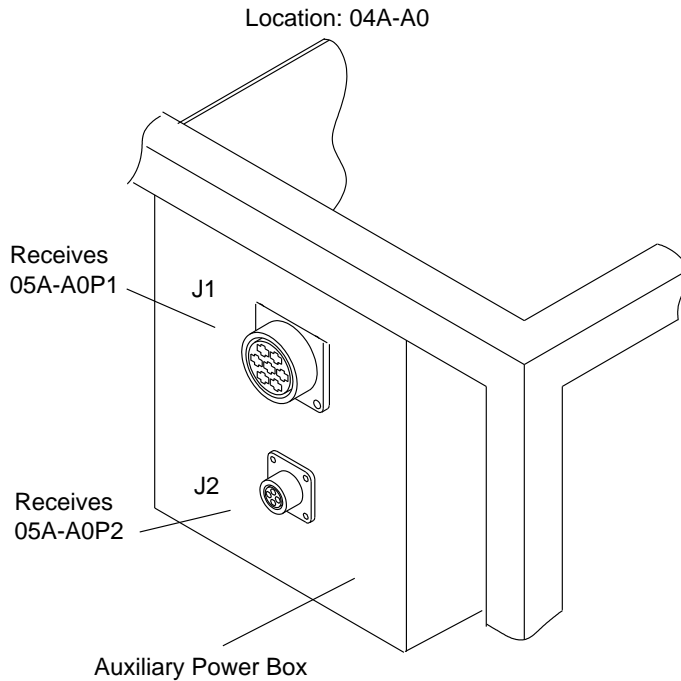

Figure 5-13. Power Sockets on the 3746-L13
- Step 2. \_\_\_\_ Plug cable **1** to the large socket (J1) of the adjacent frame at location 04A-A0J1. Plug cable **2** to the small socket (J2) at location 04A-A0J2 (see Figure 5-13 hereafter).